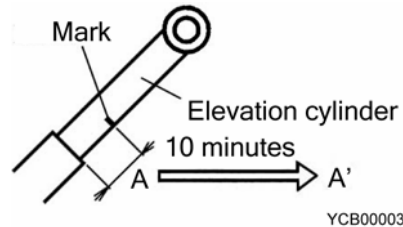

Fig. 3-16 Inspection procedures of natural descent
3. Apply the mark on the piston rod of the boom elevation cylinder, then measure the *Dimension A* as shown in Fig. 3-16.